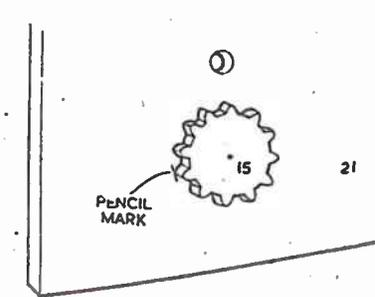
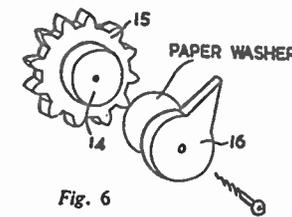

Fig. 7
Fig. 6
In Fig. 6 is shown the sprocket and pointer assembly for the part of the calendar indicating the month. Piece 14 is cut from the front (21) and glued to the sprocket (15) before being returned to the front. It is placed in position from the rear of the front and must be cleaned up so that it revolves easily. Fig. 7 shows the position of the sprocket from the rear of the front.
It is now necessary to check the accuracy of the sprocket teeth. Select the tooth you think may be the shortest and put a pencil mark against it (Fig. 7). Then turn the sprocket round to see that this tooth really is shorter than the others. If not, put another mark against